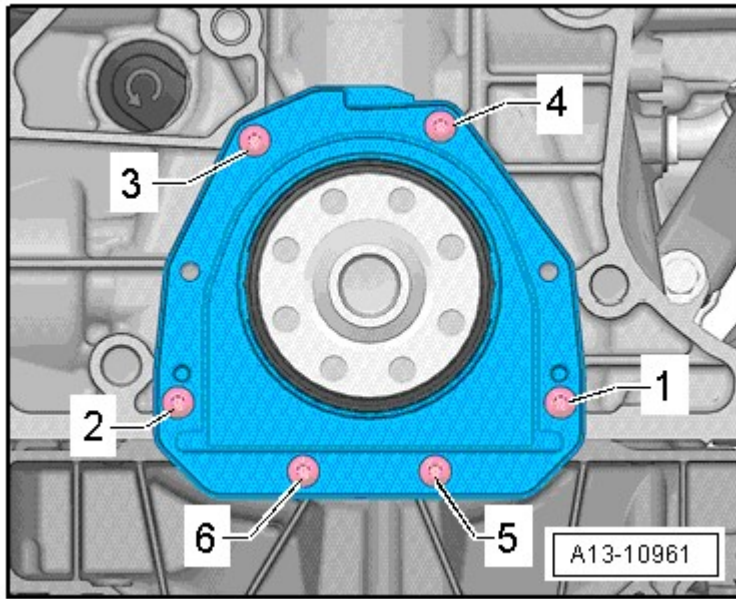

Fig. 6: Identifying Transmission Side Sealing Flange - Tightening Sequence, with 6 Bolts
- Tightening sequence with 6 bolts, refer to **Fig. 6**